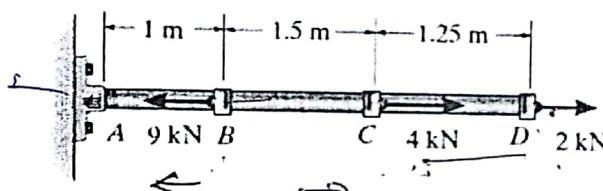

Fig. 3
3. The A-36 steel rod ( $E_{st} = 200 \text{ GPa}$ ) is subjected to the loading shown in Fig. 3. If the cross-sectional area of the rod is  $300 \text{ mm}^2$ , determine the displacement of  $C$  and  $D$ . Neglect the size of the couplings at  $B$ ,  $C$ , and  $D$ . [ $\delta_C = 0.600 \text{ mm}$ ;  $\delta_D = 0.850 \text{ mm}$ ]